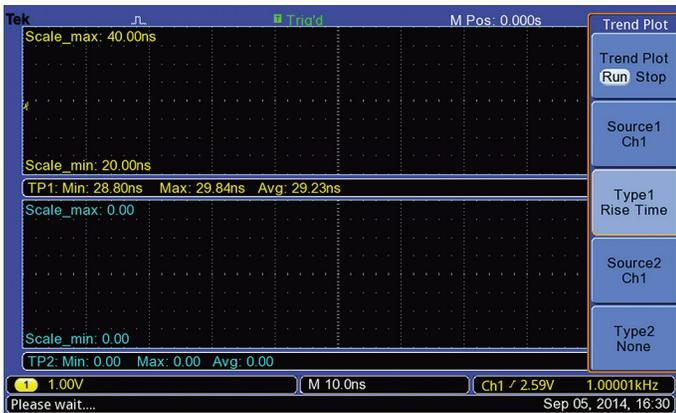

Figure 4. Plot starts at the left side of the display. "Min", "Max", and "Avg" values of the rise time are updated with each new measurement.
10. Press the "Trend Plot Run/Off" bezel button again to re-start the Trendplot. Increase the temperature of the power controller slowly from min_T to max_T, while the voltage is held steady, until the rise time reaches the maximum value the system allows. The final temperature is the maximum that results in an acceptable rise time (see Figure 4).